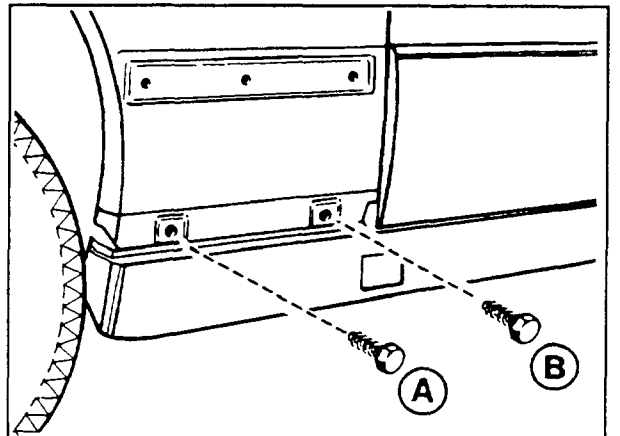

Figure 21
3. Remove the two fastening bolts (A and B, Figure 21).